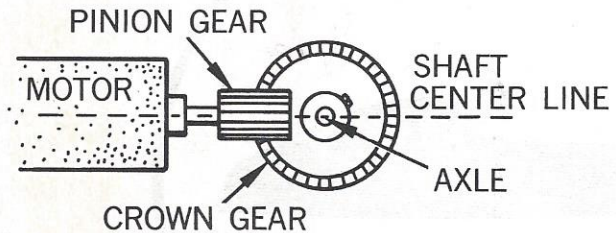

FIG. 1 — SIDE VIEW
2. The motor shaft should be on a line that intersects the rear axle at dead center when viewed from the side. (See Figure 1)